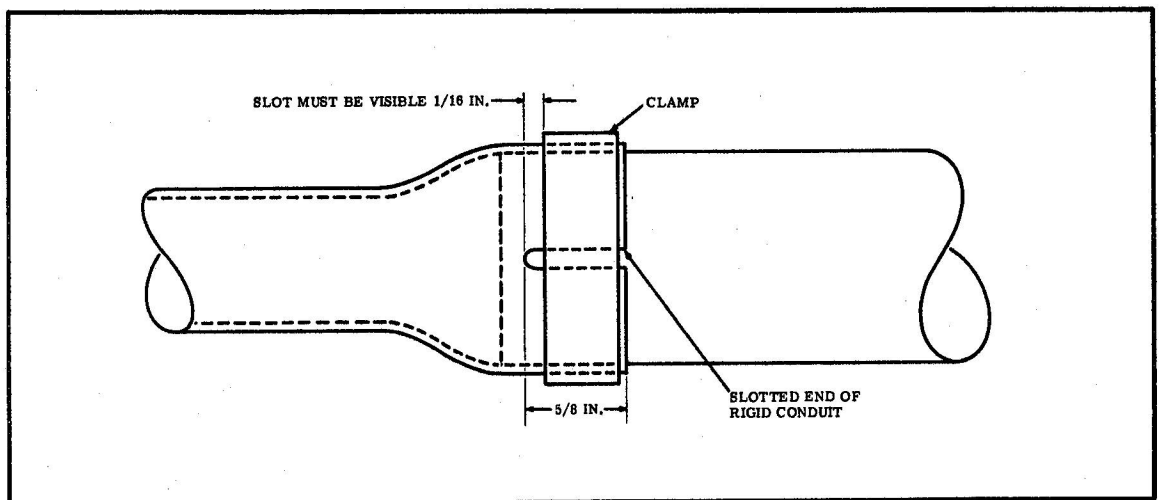

Figure 8 Clamp Installation
- (v) Install clamps over telescoping bell joints. The clamp may be installed up to the edge of the female end, but a 1/16" section of the sawcut must be visible at the other edge of the clamp to facilitate inspection, see Figure 8.